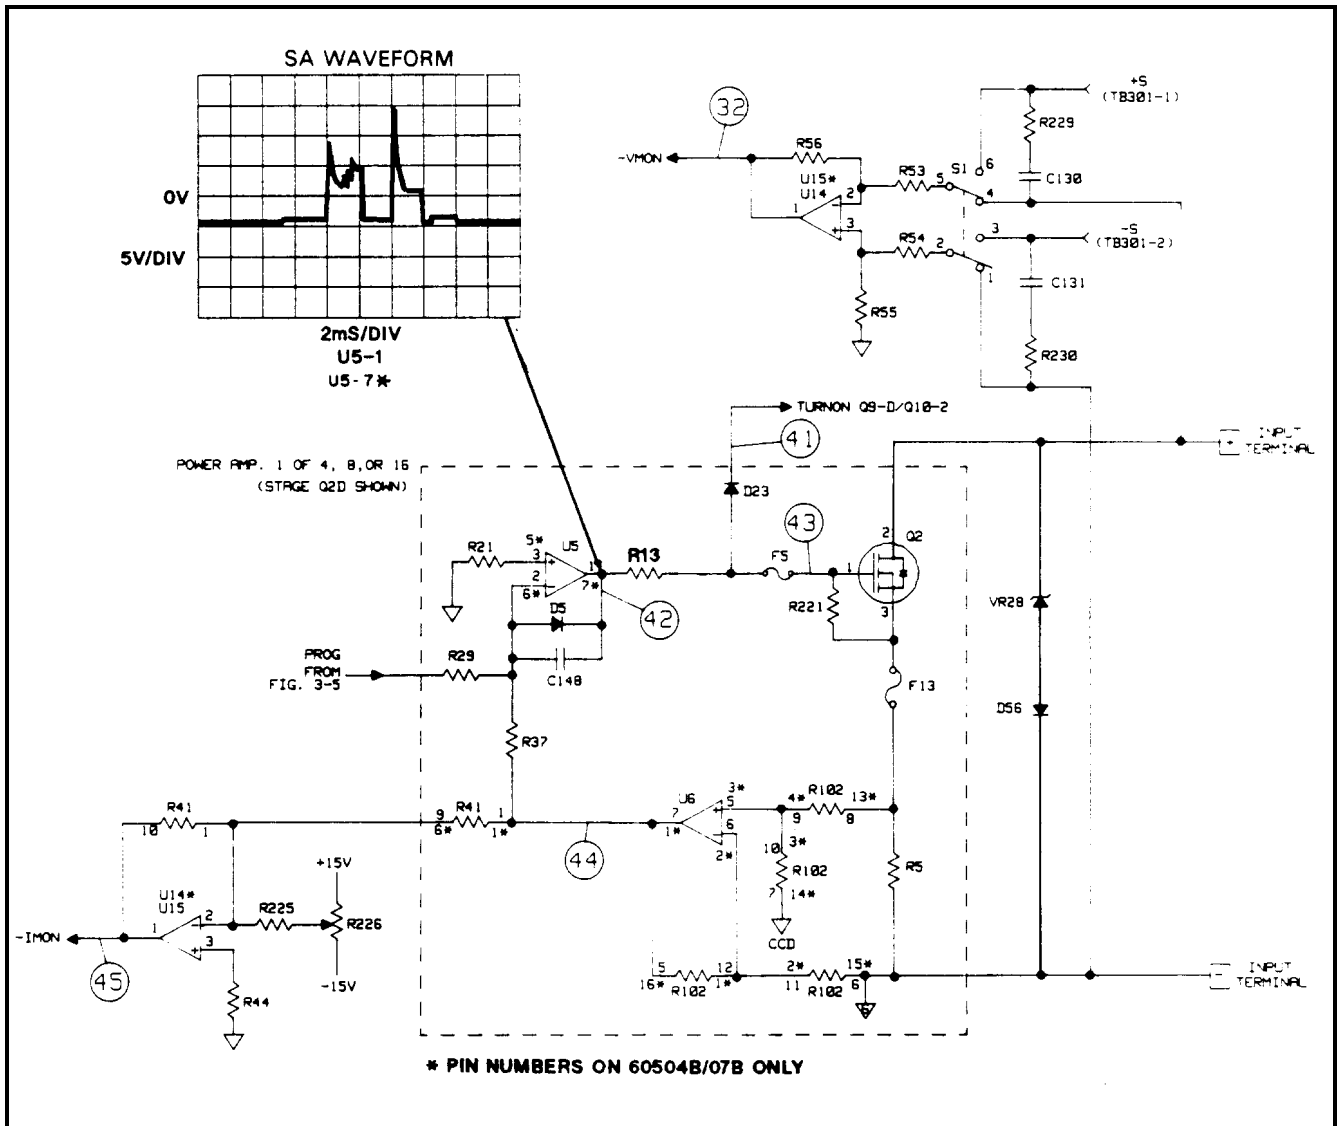

Figure 3-6. Input power Stages Troubleshooting
Input Power Stages Troubleshooting (Figure 3-6)
There are four, eight or sixteen identical input power stages (depending on the module) connected in parallel. Figure 3-6 shows one, which consists primarily of a power FET (in quad array Q2), a monitor amplifier (U6) and an error amplifier (U5). Schematic details are shown in the corresponding module Power Board schematics.
To troubleshoot the input power circuits, place the Electronic Load in the SA mode by connecting the jumpers in test headers TP201 and TP301 in the SA mode positions (see Figure 3-2). The waveform shown in Figure 3-6 at the output of the error amplifier can only be generated in the SA mode. Check that this waveform appears at the output of the error amplifier in each input power stage. Refer to the Power Board schematic to locate the output pin of each error amplifier. Checking each stage may isolate the problem to a specific stage.
If the problem is isolated to a specific stage, turn the SA mode off (remove jumpers) and check the test points ④① through ④④ that correspond with applicable circuit points in the defective stage. Use the measurement conditions specified in Table 3-3. Also, check the applicable fuses in the specific stage. As shown in Figure 3-6, fuses F5 and F13 are used by stage Q2D.